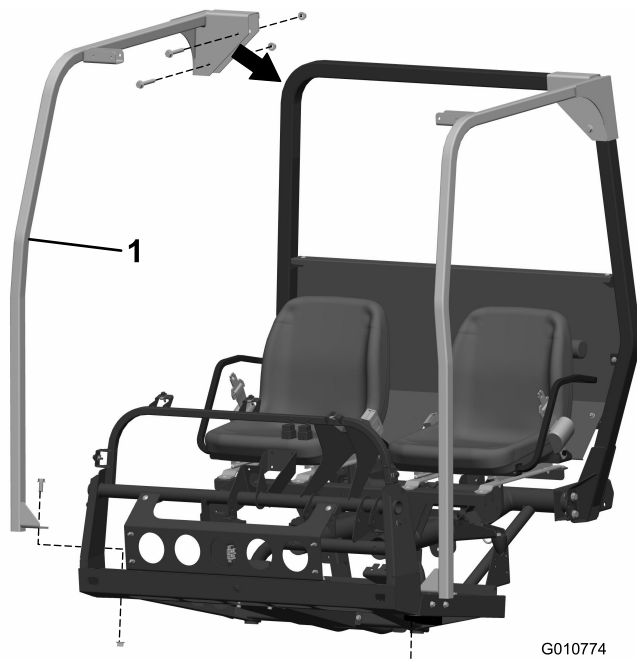

Figure 1
2. Remove the two flange head bolts and flange nuts securing the right ROPS post to the roll bar (Figure 1).